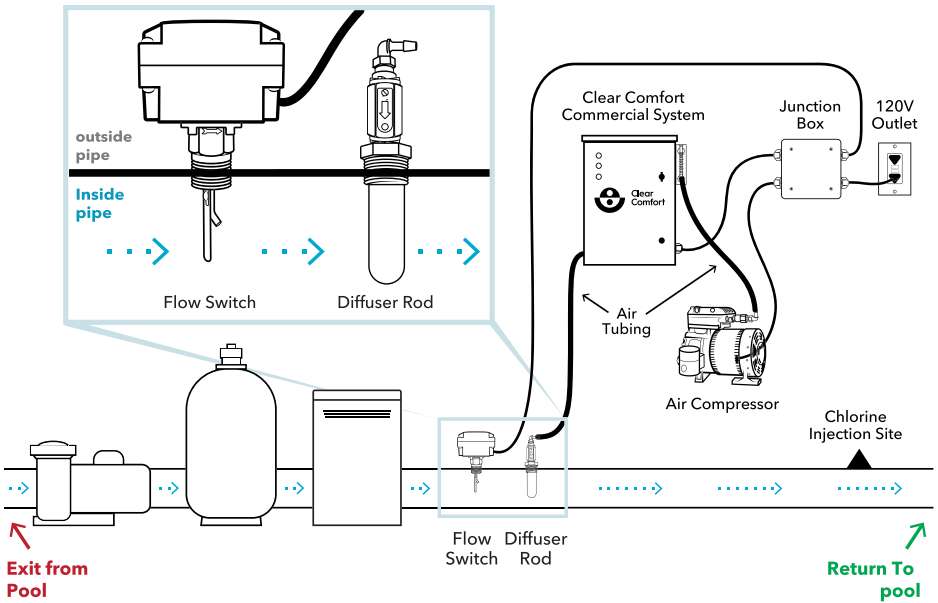

Figure 2:
- Run the desired length of ¼" silicone tubing from the venturi injection port to the straight barb fitting within the Clear Comfort system. Distance should be no longer than 15 feet. See Figure 2 below.